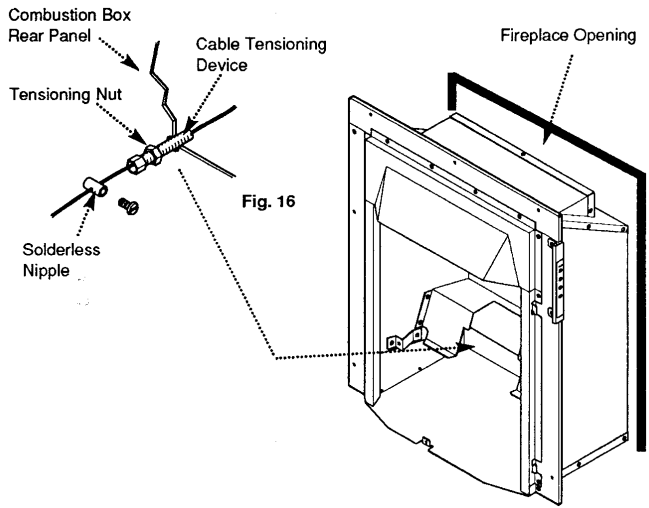
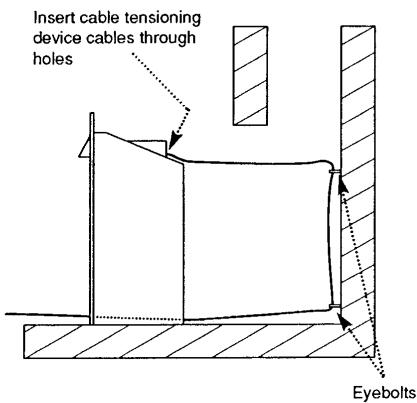

Fig. 16
Fig. 17
8. Engage the tensioning nuts on the threaded shanks of the tensioning devices. Run the nuts down to the hexagonal heads of the tensioning devices (Fig. 16).
9. From the front insert the cable tensioning devices through the combustion box rear panel. The hexagonal heads must be to the inside of the box (Fig. 16).
10. Position the appliance in front of the fireplace opening and insert the cables in the holes in the combustion box rear flange (Fig.17). Pass the cables through the eyebolts in the builders opening rear face and insert them in the tensioning devices (Fig. 16 & 17). Where the electrical supply is being routed through the rear panel, pass the cable through the hole at the right hand side. Do not draw any more cable into the fire than is necessary. Manoeuvre the appliance backwards into the opening, drawing any slack length of cable through the tensioners.
12. Run the solderless nipples down the cables to the tensioners and tighten their securing screws (Fig. 16). As required, take the relevant grommet(s) and slide over the gas and/or electrical supplies. Run the grommet(s) down the pipe and/or cable and insert in the hole in the rear panel.